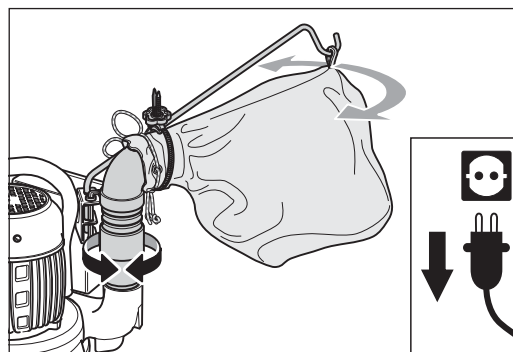

Fig. 9 The pressure hose can also be rotated at the lower plastic pipe stub.
- 1 On the pressure hose, grab the black plastic pipe stub below the hose piece and rotate it toward the desired side. The dust bag will swivel with the black plastic pipe stub (fig. 9). Do not use the upper curved pipe piece to rotate the pressure hose.